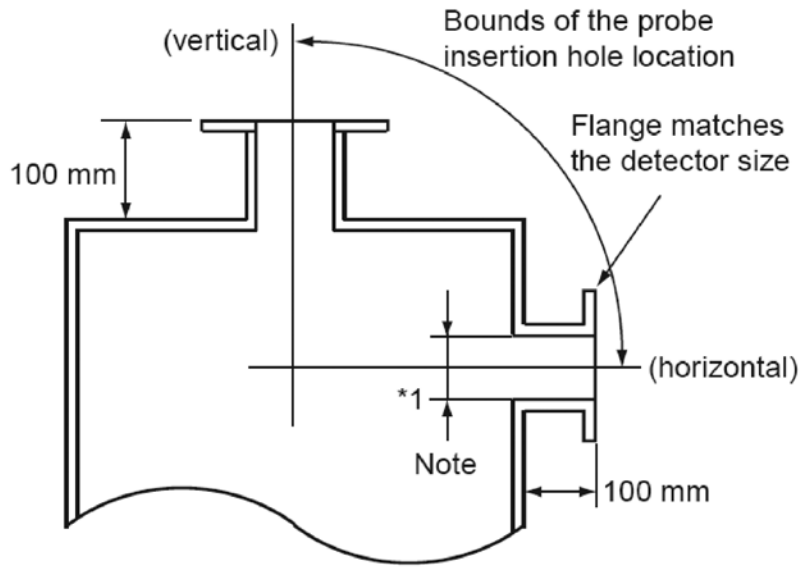

Figure 4.1
2. The distance between the process wall and the process flange should be 100mm (4.0 inches) or more, as shown in Figure 4.1.